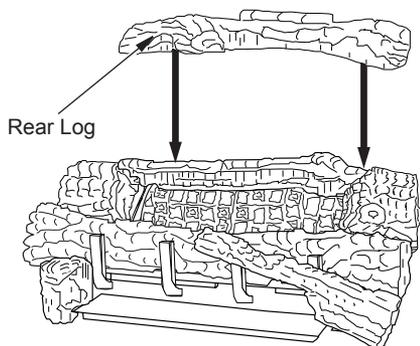

**Figure 40 - Installing Rear Middle Log**
- The rear middle log should fit between the ramp log and the rear burner. The left and right middle logs have recessed areas for the rear middle log to sit into (See Figure 40). Be careful not to push the rear burner out of position while installing this log.